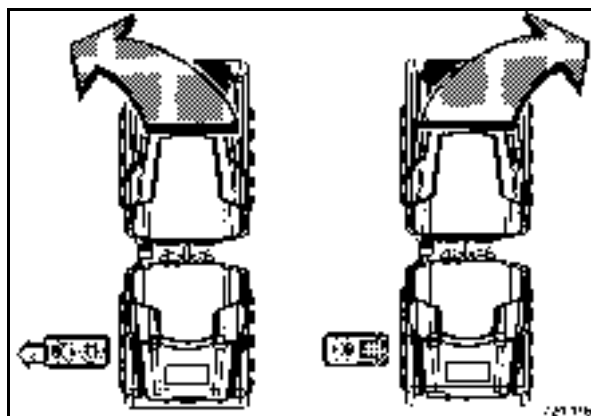

Fig. 46
- Actuate the travel levers (Fig. 46) accordingly.